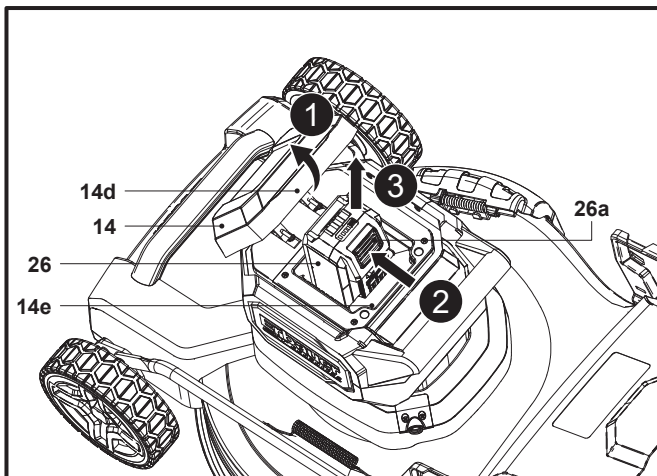

Fig. 8
1. Hold the lip (14d) and open the battery compartment cover (14) (Fig. 8, step 1).
2. Press down the release button (26a) to unlock the latch of battery pack (26) (Fig. 8, step 2).
3. Slide out the battery pack (26) from the battery compartment (14e) (Fig. 8, step 3)
4. Close the battery compartment cover (14).